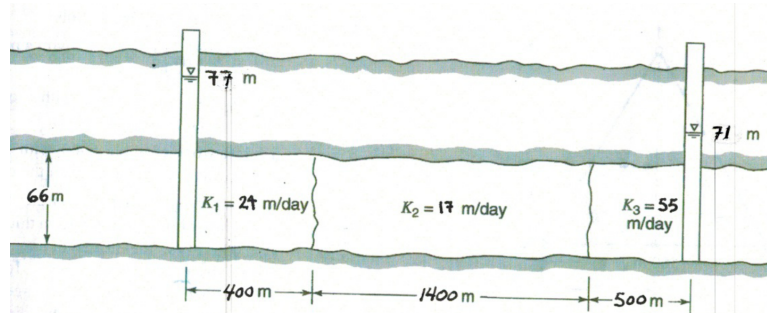

Figure 2: Confined aquifer system with three formations in series
2. Water flows through the aquifer system shown in Figure 2. The heads in the two monitoring wells are 77.0 m and 71.0 m.